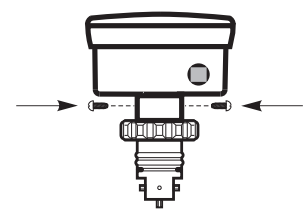

Fig. 6
- Display can be mounted on the sensor or panel mounted (1/4 DIN). See figure 6 and 8.
- Display can be rotated on sensor. See figure 6.